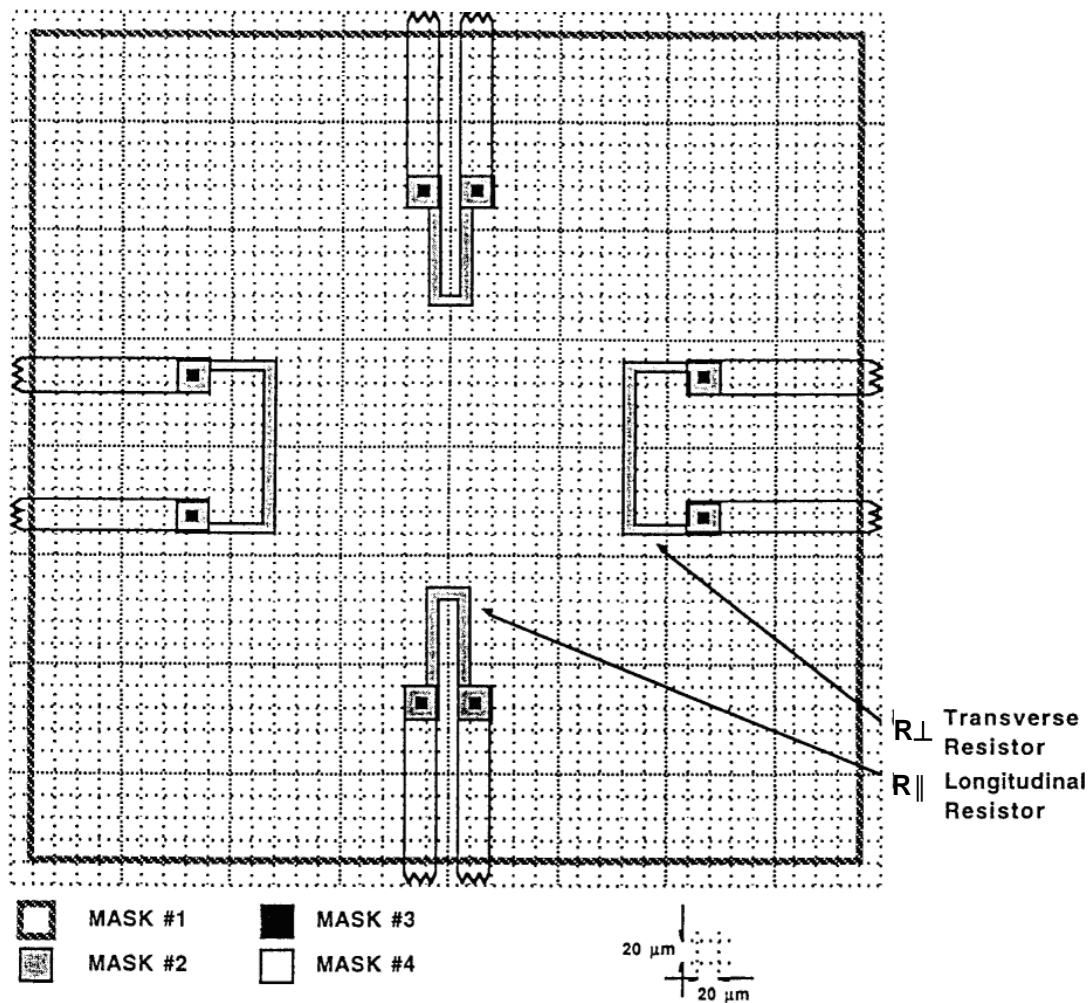

Figure 2: Layout of the pressure sensor using a 4 masks fabrication process.
- On Figure 2 draw the edges of the silicon membrane.
- d) Complete the section below on the characteristics of the pressure sensor fabricated using the mask layout presented in Figure 2. (thickness of piezoresistors: 1  $\mu\text{m}$ ,  $\rho_{\text{Si}} = 0.001 \Omega\text{-cm}$ ).